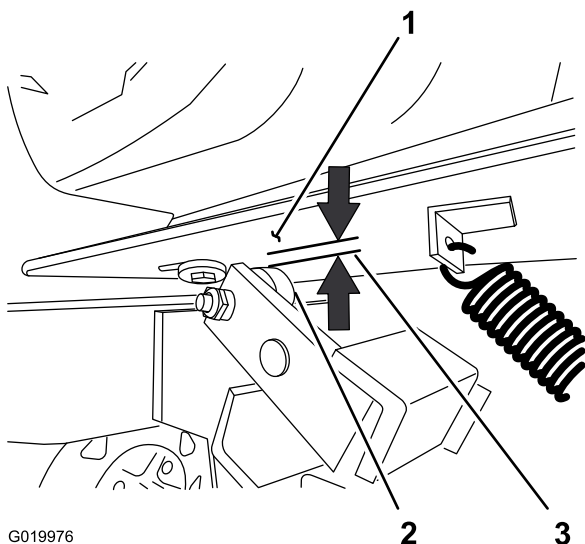

Figure 34
2. Measure the air gap between the motor deck and the roller on the clutch (Figure 34).